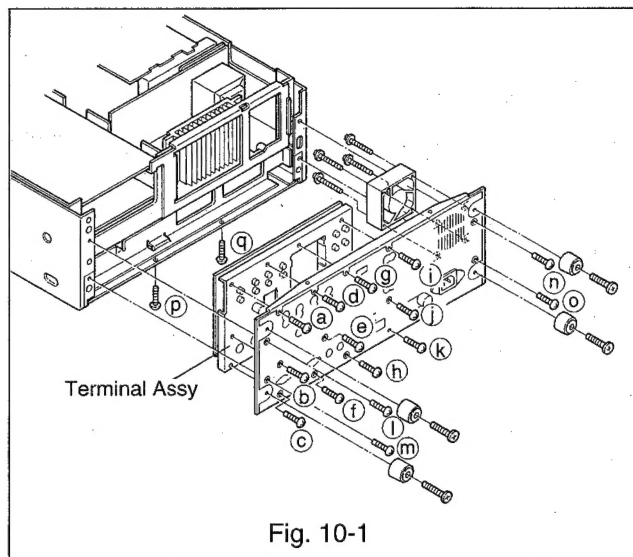

Fig. 10-1
(Refer to Fig. 10-1)
- D. Remove the eleven screws (a~k) of the terminal assy. (Refer to Fig. 10-1)